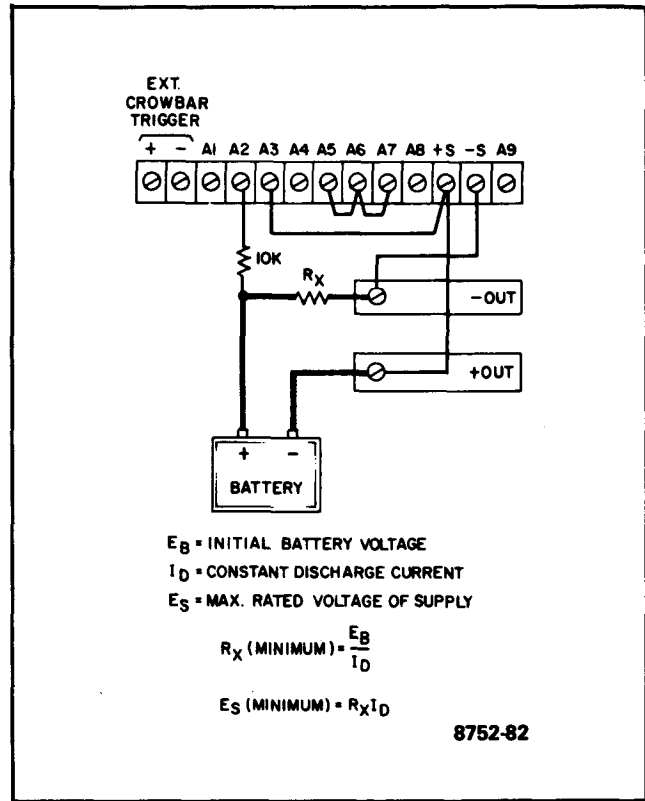

Figure 3-17. Battery Discharging
3-92 These power supplies are also useful when batteries must be discharged at a constant current in order to test them. Connecting a supply as shown in Figure 3-17 and following the instructions below makes an unattended constant-current discharge possible by automatically shutting off the output of the supply when the battery voltage reaches zero.
the supply senses this through the connection to its A2 terminal and reduces the output current to zero. (If this automatic shutoff feature is not required, the 10k ohm resistor may be omitted.) As shown in Figure 3-17, R_x must be selected so that its IR drop is less than the maximum rated output voltage of the supply, but greater than the initial battery voltage.
- b. Connect terminal A3 to +S and leave all other jumpers connected as for normal operation as shown in Figure 3-17.